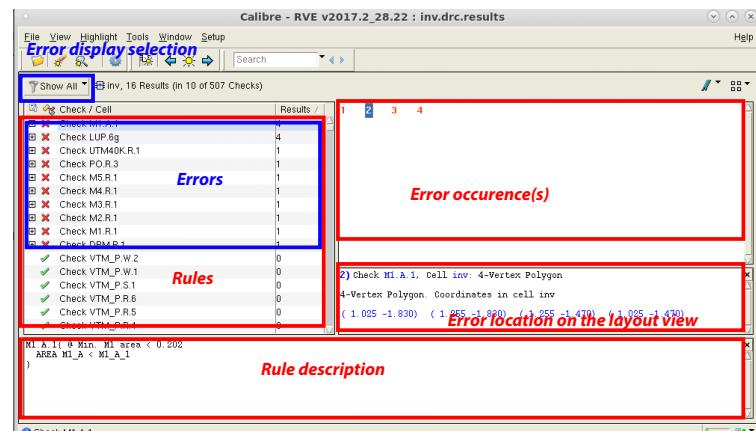

Figure 15: DRC result window
3. Then Click on Run DRC, wait a little bit and the potential DRC errors will be displayed. As shown in Fig. 15, a new window should appear. On the left pane are listed all the different rules. You can click on *Results* to order them. If some rules have a red cross in front of them, it means your design does not respect some of the foundry rules (the goal is then to only have green symbol in front of every rules, otherwise, the foundry will not
be able to manufacture your design). The rule description tells you what the rule requires to be enforced. In this example, it says that the minimum metal 1 area should be at least $0.202\mu\text{m}^2$. The error occurrence tells you how many occurrences of the same error you have in your design. The other pane tells you where the error is located. If you want to directly locate the error on your layout view, you can double click on the error number in the error occurrence pane (1 2 3 4 in Fig. 15). Once this error is corrected, you can go back to the DRC results window, select another error, locate it and so on and so forth.